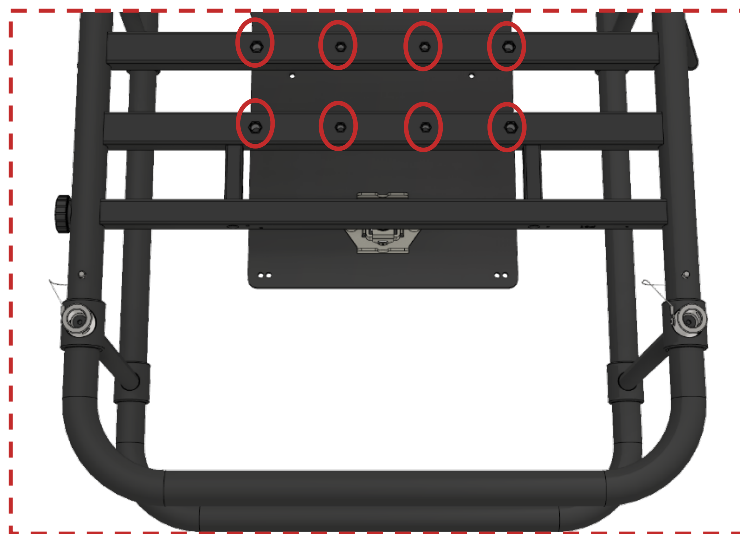
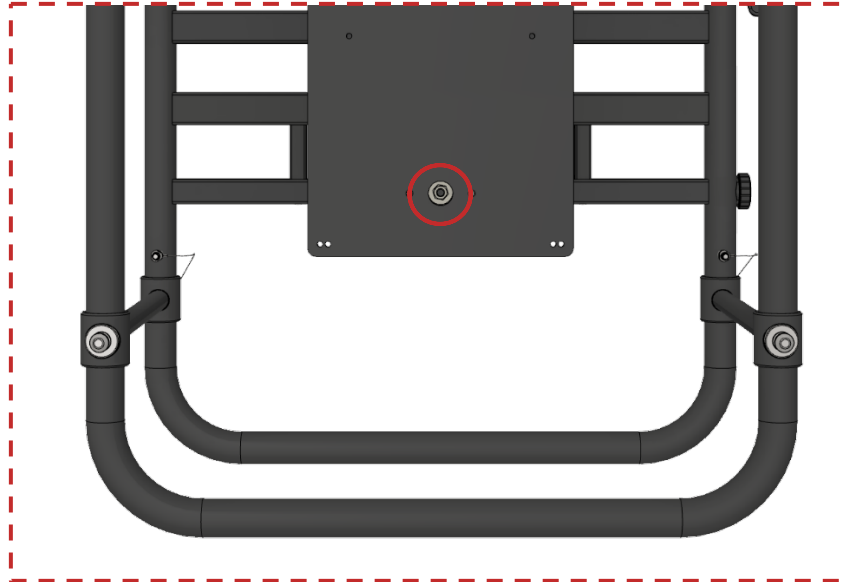

Figure 17 Inspection of mounting threads at bottom side
Figure 19 Nut on centre top side which is sealed with red colour wax
- Before and after each installation, the **M8 and M10 mounting holes** (see red marking in Figure 17) must be carefully inspected, as they may get damaged during the installation of the hanging accessory.
- On the three screws + nuts presented on the above two pictures (Figure 17 and Figure 19) red color sealing wax was applied to be sure that the nuts will always be on the same position and no one will try to tighten or loose them.
Except for the three nuts described on the previous section (see Figure 17 and Figure 19), please control, with corresponding tool, that all the other screws are properly tightened.